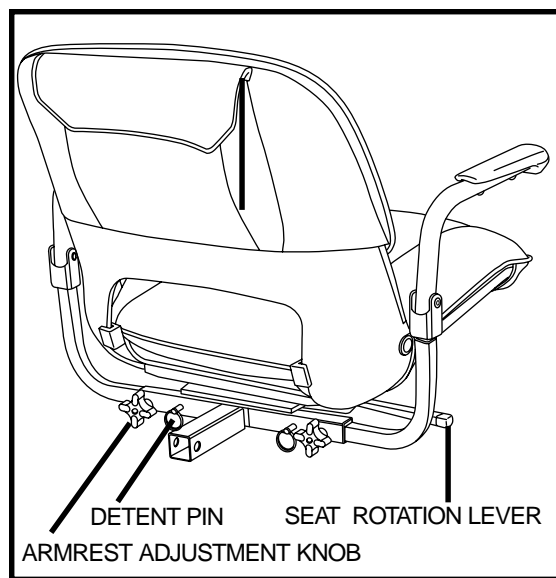

Figure 14. Seat Adjustment
1. Pull up on the seat rotation lever to disengage the seat. **See figure 14.**
1. Loosen the armrest adjustment knobs. **See figure 14.**